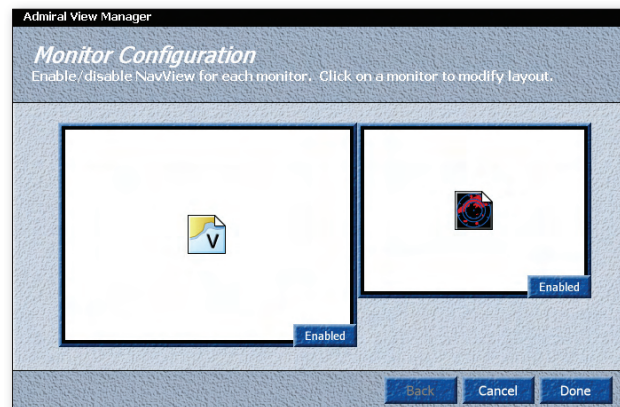

Figure 18.7 - View Manager - Multiple Monitors
3. If multiple monitors are connected to the PC, you will see the dialog shown in **Figure 18.7**. If you are using multiple monitors, select to enable/disable monitors and then click on the monitor for which you would like to create a new layout